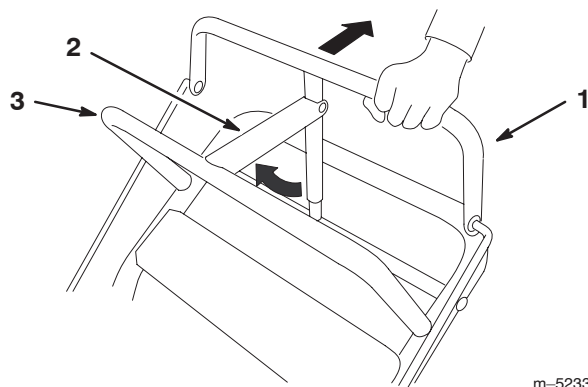

Figure 10
5. Check the parking brake adjustment (Fig. 10). Refer to Checking the Brakes, page NO TAG.